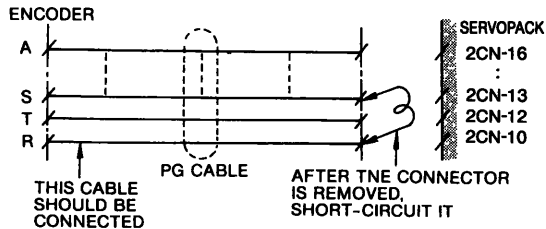

Fig 6.20 Setup Method by PG Cables
2. When the motor is built in the unit and does not make any contact with encoder connector, remove Servopack 2CN from PG cable and short-circuit between S and R of PG cable for setup as shown in Fig. 6.20.